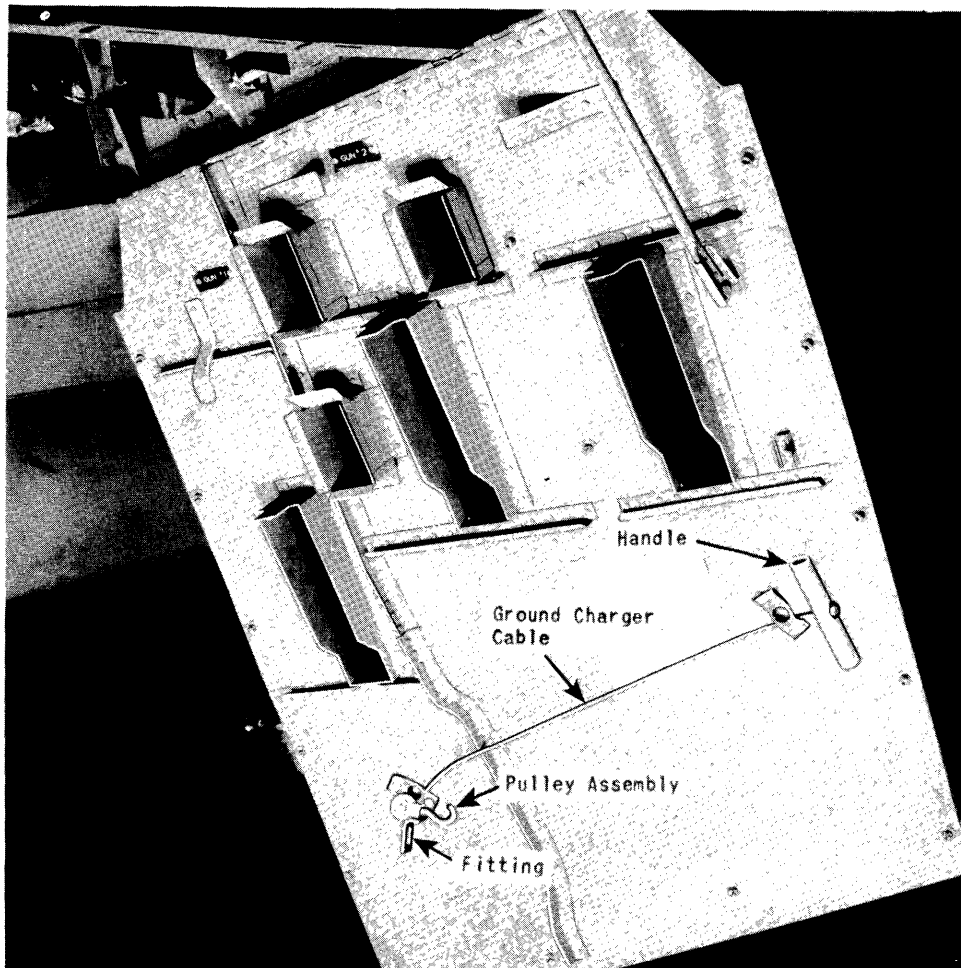

Figure 43A - Ground
(1) General. - On late airplanes the hydraulic gun charging equipment has been removed and a ground charger assembly has been provided for each airplane. All airplanes, minus the hydraulic charging equipment must be charged on the ground before each flight. The guns cannot be charged while the airplane is in flight. The ground charger assembly consists of a pulley, a cable, a fitting, which has a tapered elongated hole to tightly engage the bolt stud on the gun, and a handle assembly. (See figure 43A.)
(2) To charge the guns on the ground proceed as follows: